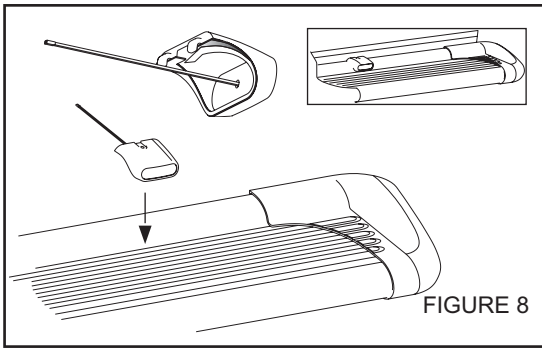
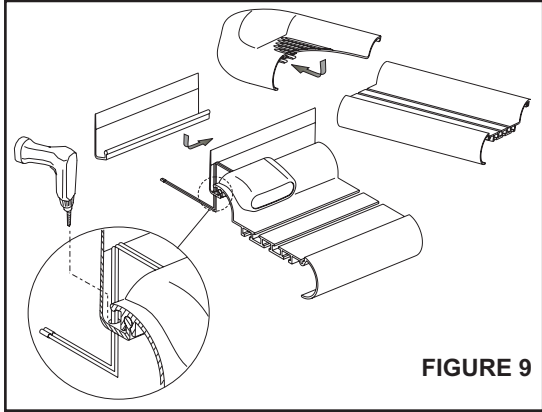

FIGURE 8
FIGURE 9
- STEP 4. For Sure-Grip Running Boards, slide closure strip as shown. Set lights (if purchased) in appropriate location. Attach to Sure-Grip Running Board as shown. **SEE FIGURE 8.** Drill hole through plastic strip and run wires as shown. **SEE FIGURE 9.**